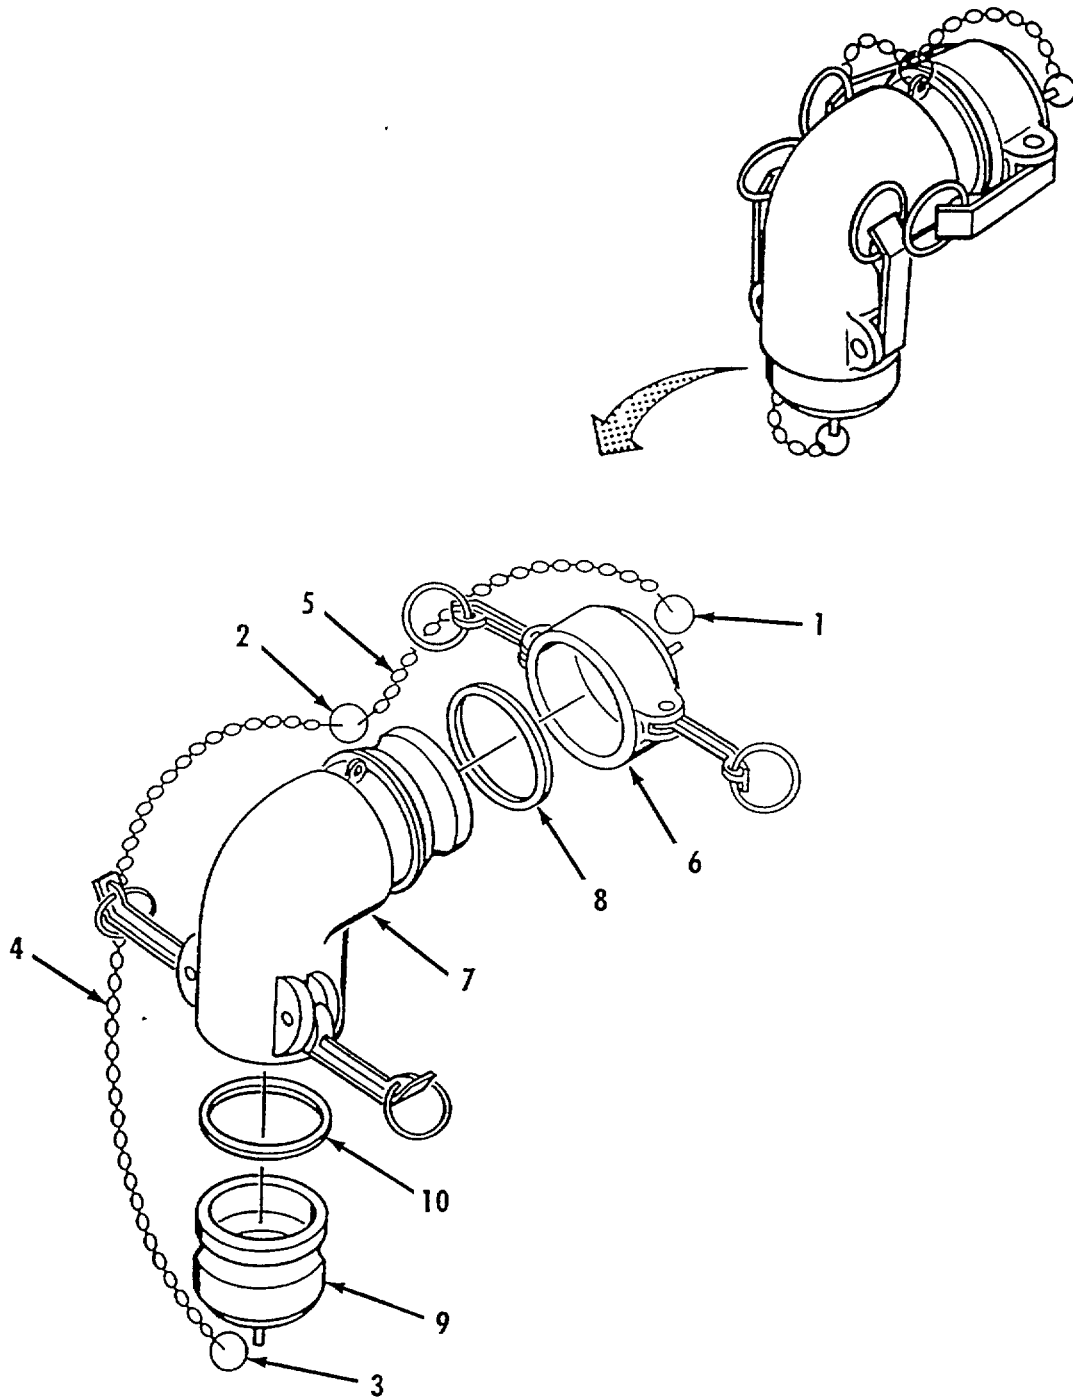

Figure 4-24. Elbow Repair.
a. Disassembly. Refer to figure 4-24.
- (1) Remove three spilt rings (1, 2, and 3) and chains (4 and 5).
- (2) Remove dust cap (6) from male end of elbow (7).
- (3) Remove gasket (8) from dust cap (6).
- (4) Remove dust plug (9) from female end of elbow (7).
- (5) Remove gasket (10) from female end of elbow (7).
d. Assembly. Refer to figure 4-24.